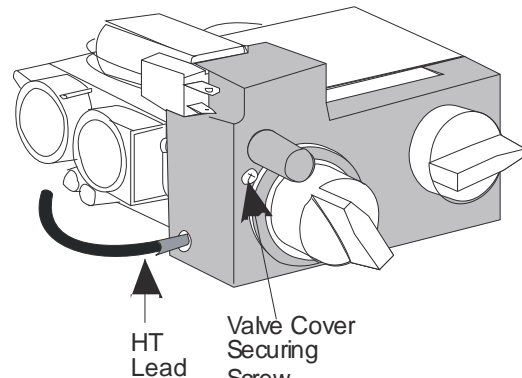

Figure 61
3. Pull out the HT lead from the side of the valve cover (see **Figure 61**).